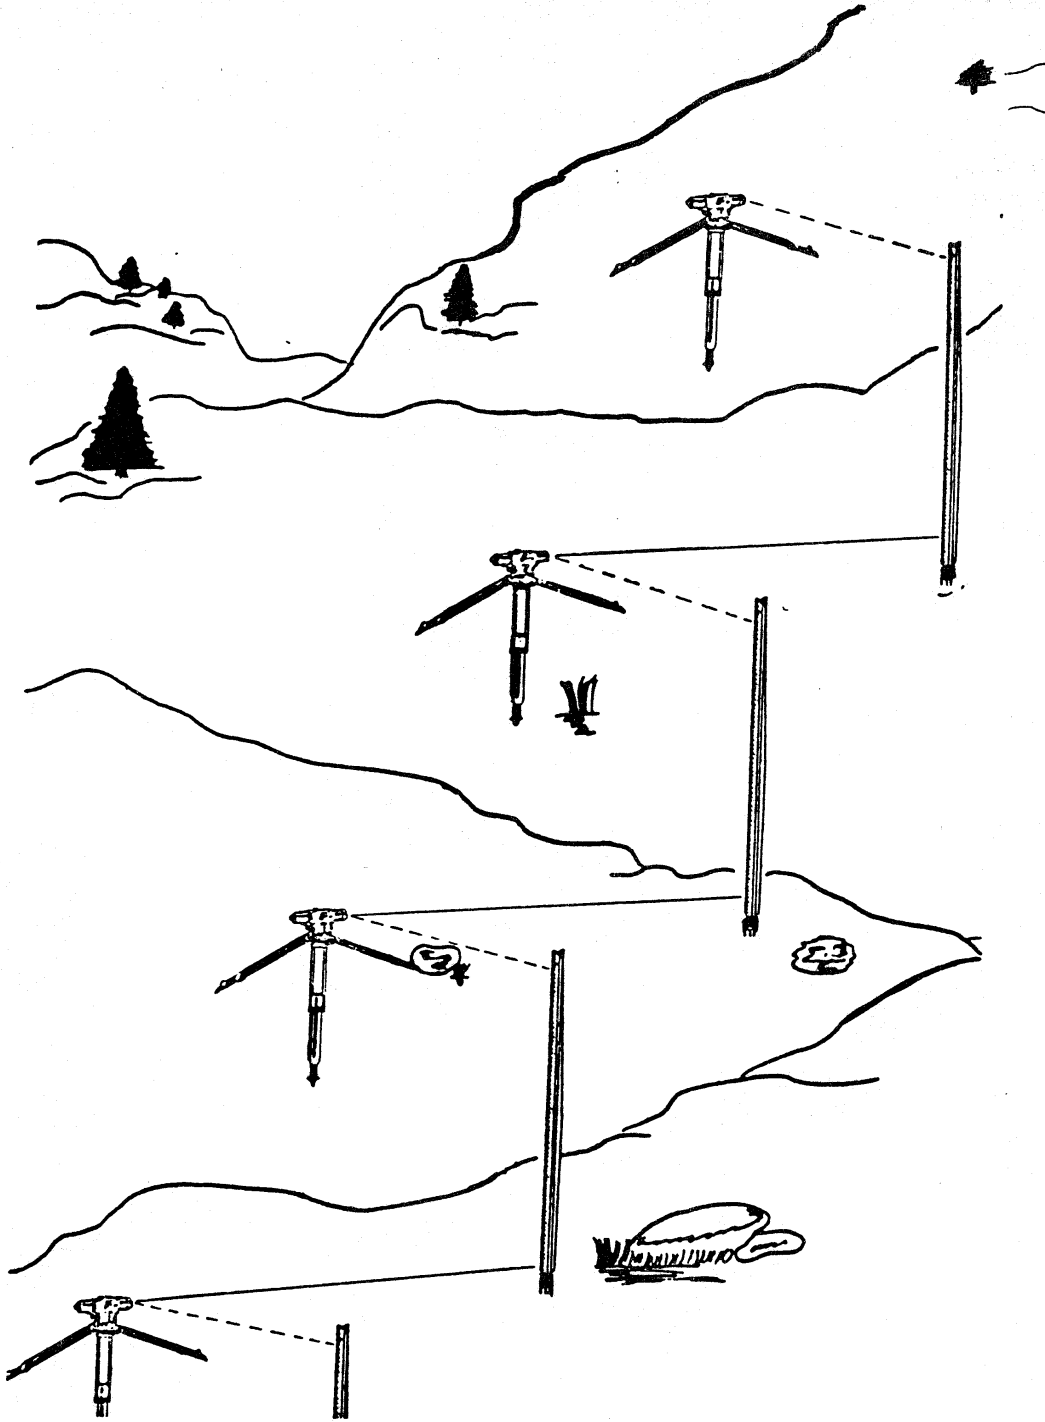

FIGURE 5-03-A LEVELING IN STEEP TERRAIN
- d) When leveling in steep terrain, place "turns" and instrument setups so they follow parallel paths - not along the same path. This gives equal backsight and foresight distances. See Figure 5-03-A.